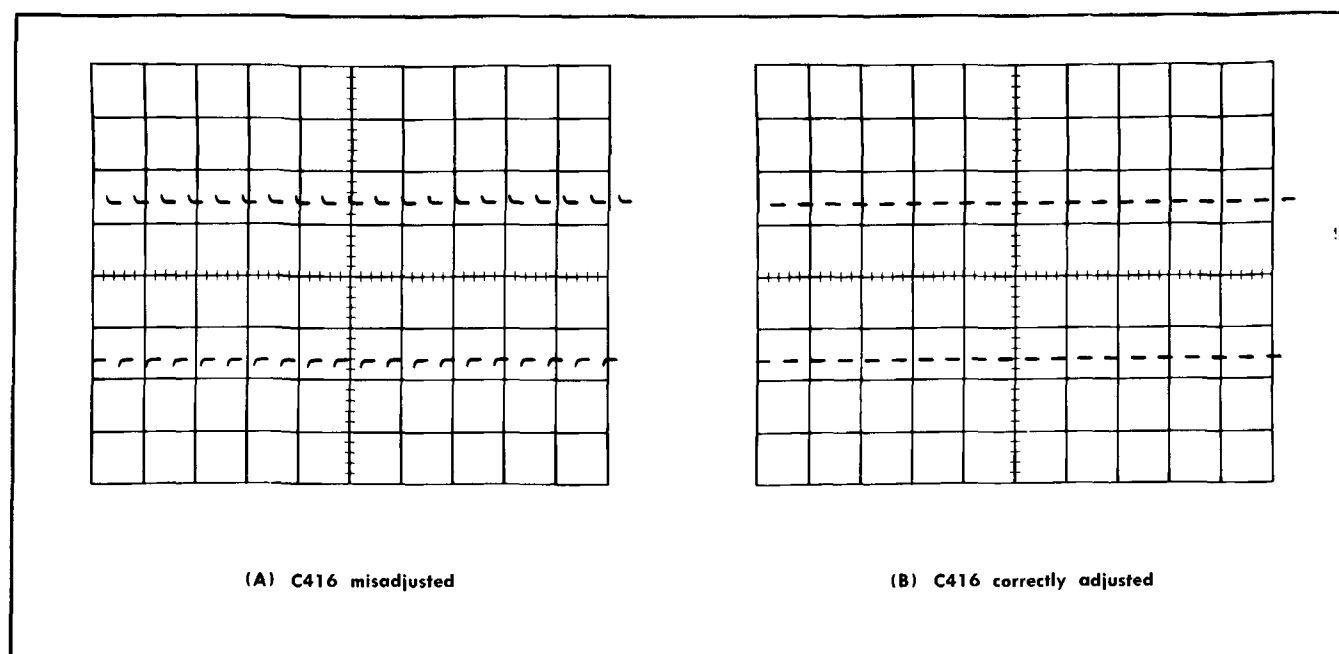

Fig. 5-2. Typical displays, Vertical Amplifier attenuator compensation check; 1 kHz square-wave input; sweep speed, 2 milliseconds/cm.
g. Check—Square-wave display with no more than 2% aberrations. See Fig. 5-2 for typical displays.